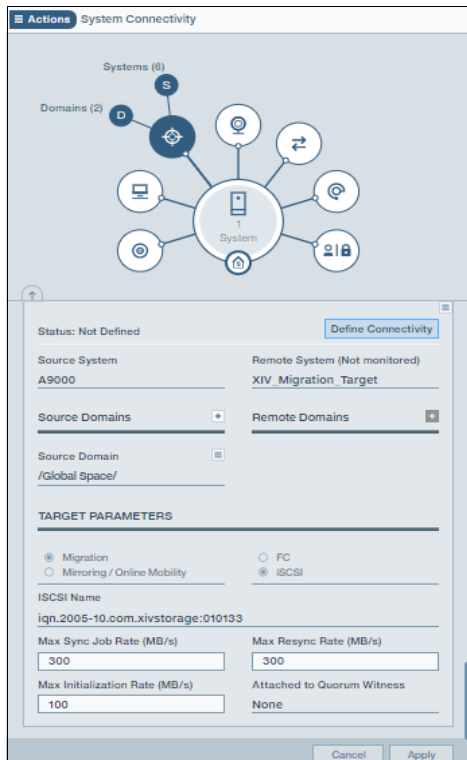

Figure 8-11 Defining target ports in IBM FlashSystem A9000
3. Enter the following information and select the following options, as shown in Figure 8-11 on page 181:
4. After the target is defined, the target appears in the System Connectivity display as shown in Figure 8-11. Select **Define Connectivity** to define the iSCSI connections.